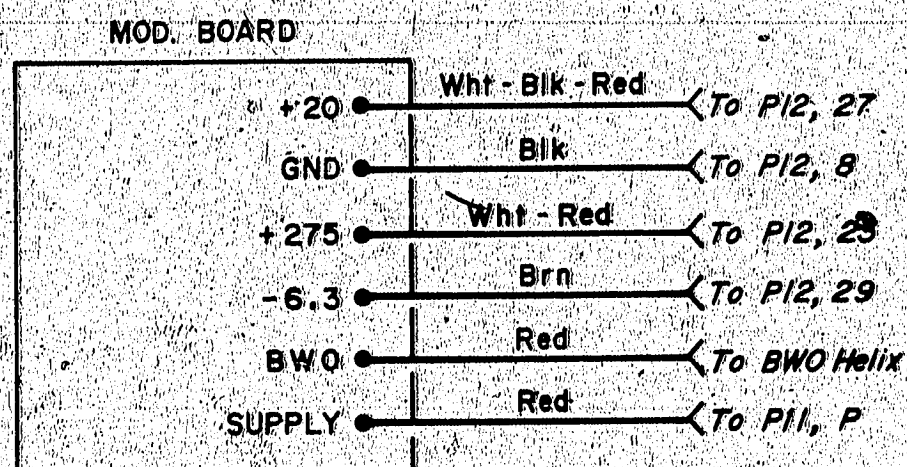

Figure 3. 8692A/B - 8694A/B Shunt Modulator Board Connections
16. Connect all other leads as shown in Figure 3.